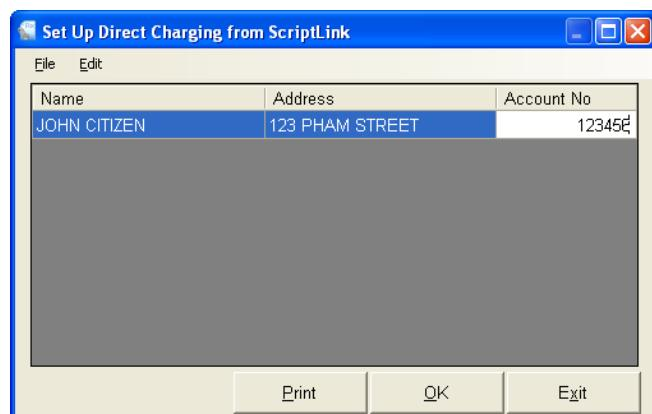

Figure 118
6. Once selected the patient will be shown in the 'Set Up Customers from ScriptLink' window, where you will need to enter in the customer patient number (from their dispense program) into the 'Account No.' field (see Figure 118). Doing this will link the patient from their dispense program to LOTS POS.